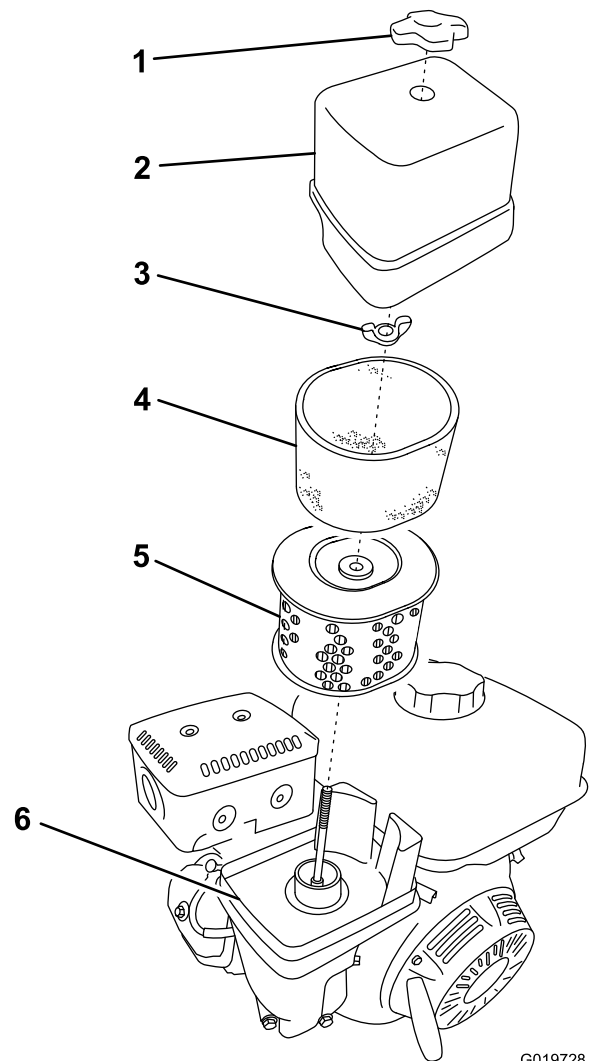

Figure 25
3. Remove the nut that secures the cover (Figure 25).
5. Remove the foam and paper elements from the base (Figure 25).
6. Remove the foam element from the paper element (Figure 25).